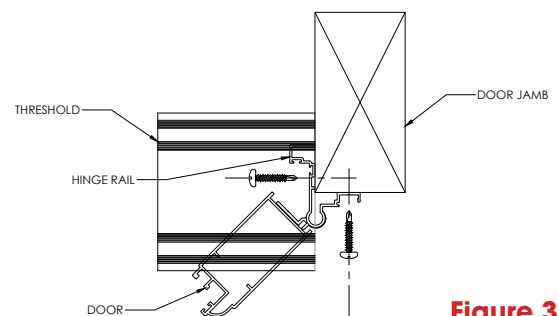

Figure 3
4. Set the hinge rail on the floor (on top of threshold if using it) and tight to the jamb. Making sure you have left at 1/8" gap at the top for the header to slip in. See Fig. 3.
5. Install hinge rail (with the door leaf attached) using #6 x 1" color matched screws (provided). Screw through pre-punched holes in facing of rail into jamb. As attachment proceeds, ensure that the hinge rail and door are plumb in the opening. See Fig. 3.
9. After the frame is fastened around its perimeter and the fit is satisfactory, open the door. Screw one #6 x 1" color matched screw (provided) in pre-punched holes, as reinforcement behind each hinge. **See Fig. 3 (previous page).**